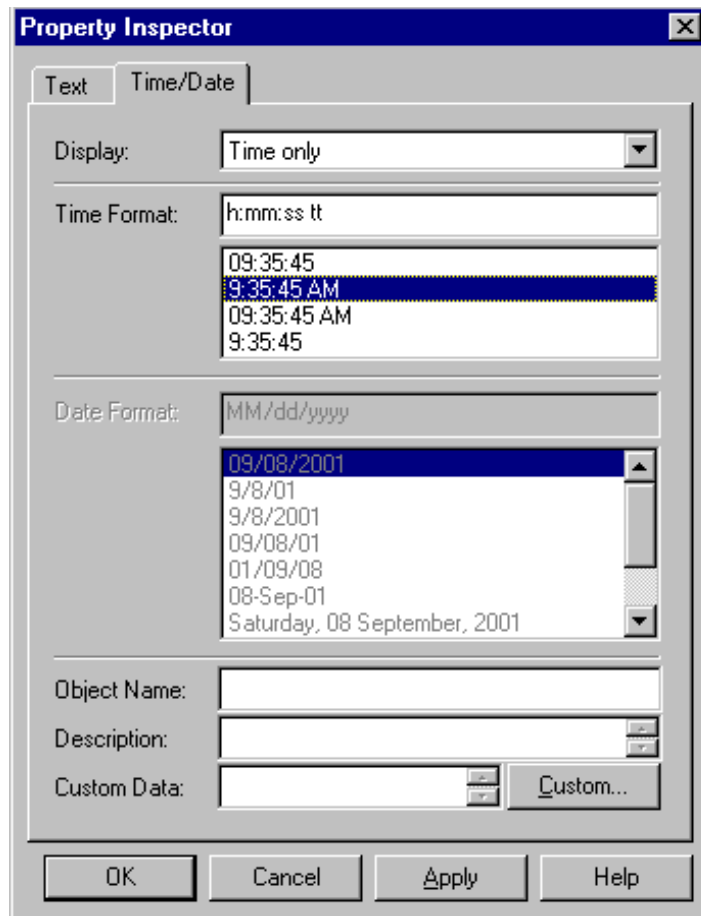

Figure 11-14: Property Inspector Dialog Box - Time/Date Tab
3. Click in the work area. The Property Inspector appears with the Time/Date tab (Figure 11-14).